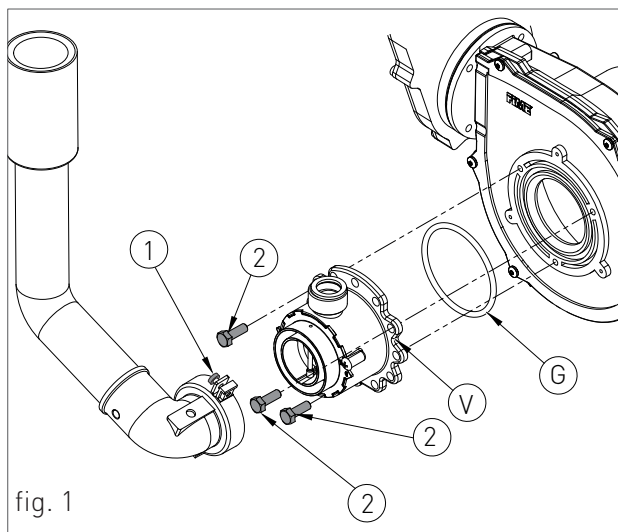
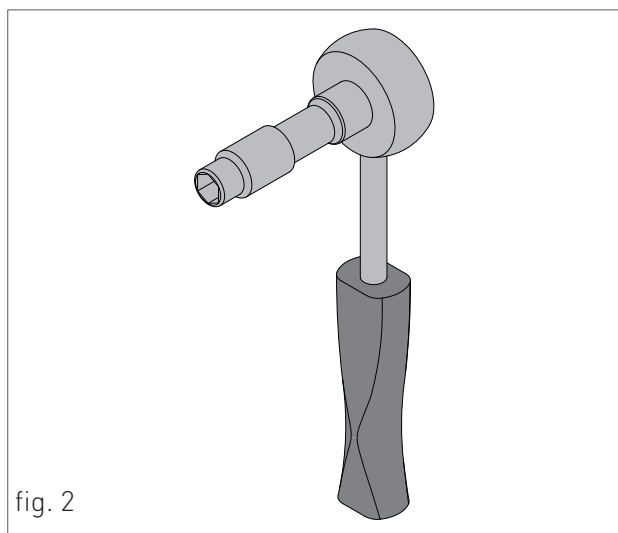

fig. 1
fig. 2
- › remove the fixing screws placed on back side of the cover '1' (fig. 1) and remove the cover by pulling it vertically.
- › grab panel '2' (fig. 1) from the upper side and rotate it downwards. To remove the panel completely, first dismantle the electronic PCB front panel from the support brackets. Then remove the fixing screws from the inner part of the panel.
- › Grab panel '3' (fig. 1) from the upper side and rotate it downwards. To remove the panel, unscrew the fixing screws from the inner part of the panel.
- › remove the panels '4-5-6-7-8' (fig. 1), fixed under pressure, by pulling them outwards.
- › Follow the procedure described at chapter 'ACCESSING THE BOILER' and rotate panel '2' (fig 1);
- › turn the discharge tap of the system 'RS' (fig. 1);
In order to check the anode functioning it's necessary to open the cap 'V' (fig.1) situated on the top of the boiler.
- › loosen the two screws '1' (fig.1) from the fastening bush, and remove the air suction tube;
- › unscrew the three fastening screws '2' (fig.1) of the venturi 'V' (fig.1) using a 10 key, as shown in figure 2;
- › remount the components following the demounting operations in reverse making sure that gasket 'G' is re-assembled as shown in fig.1;